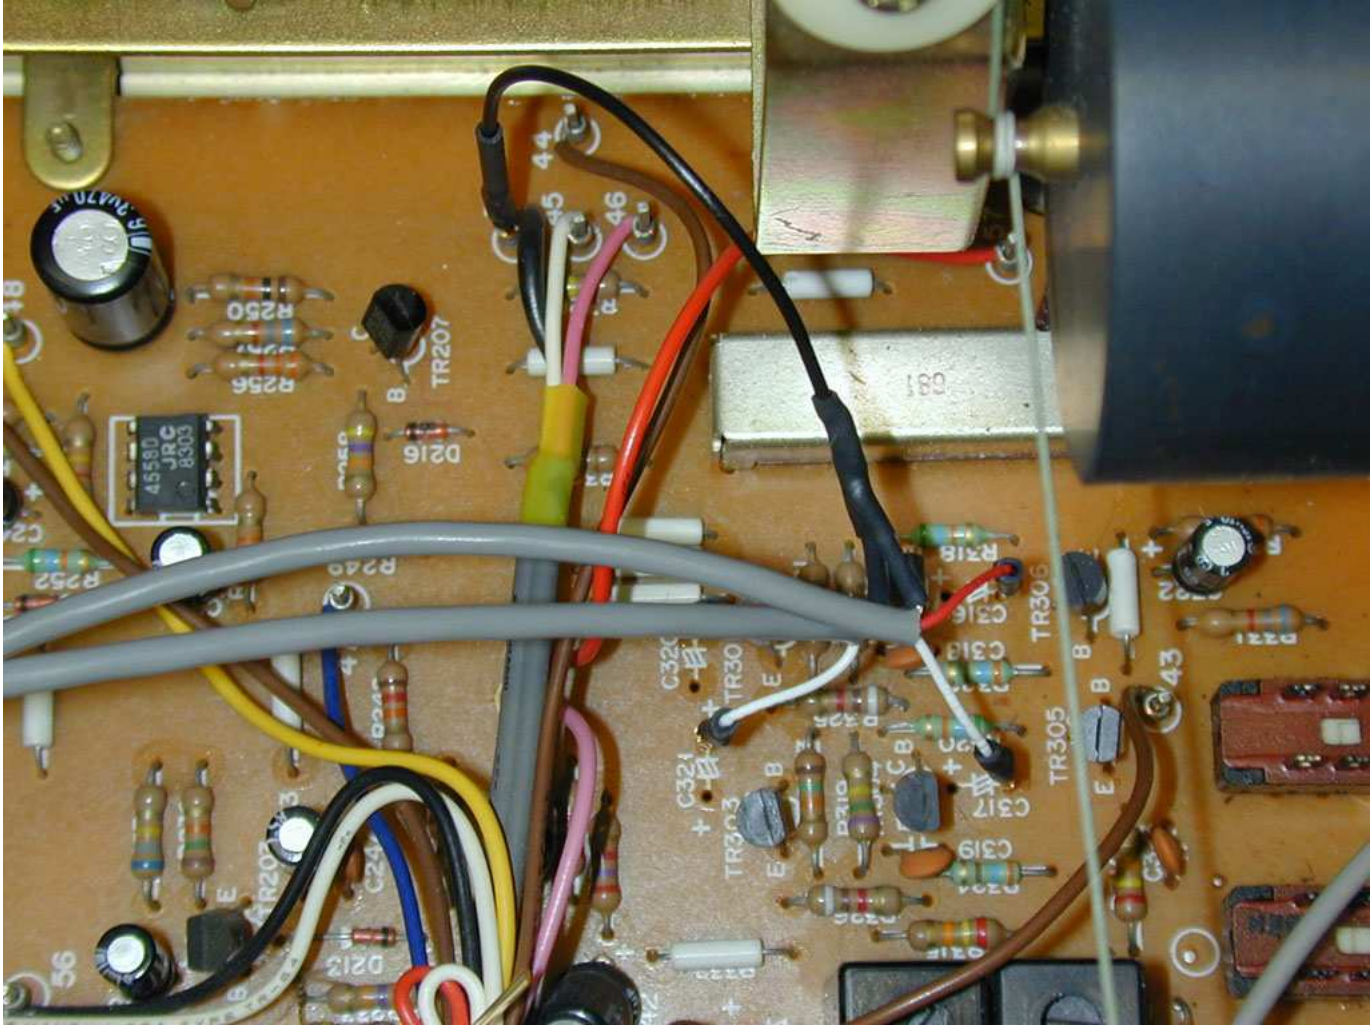
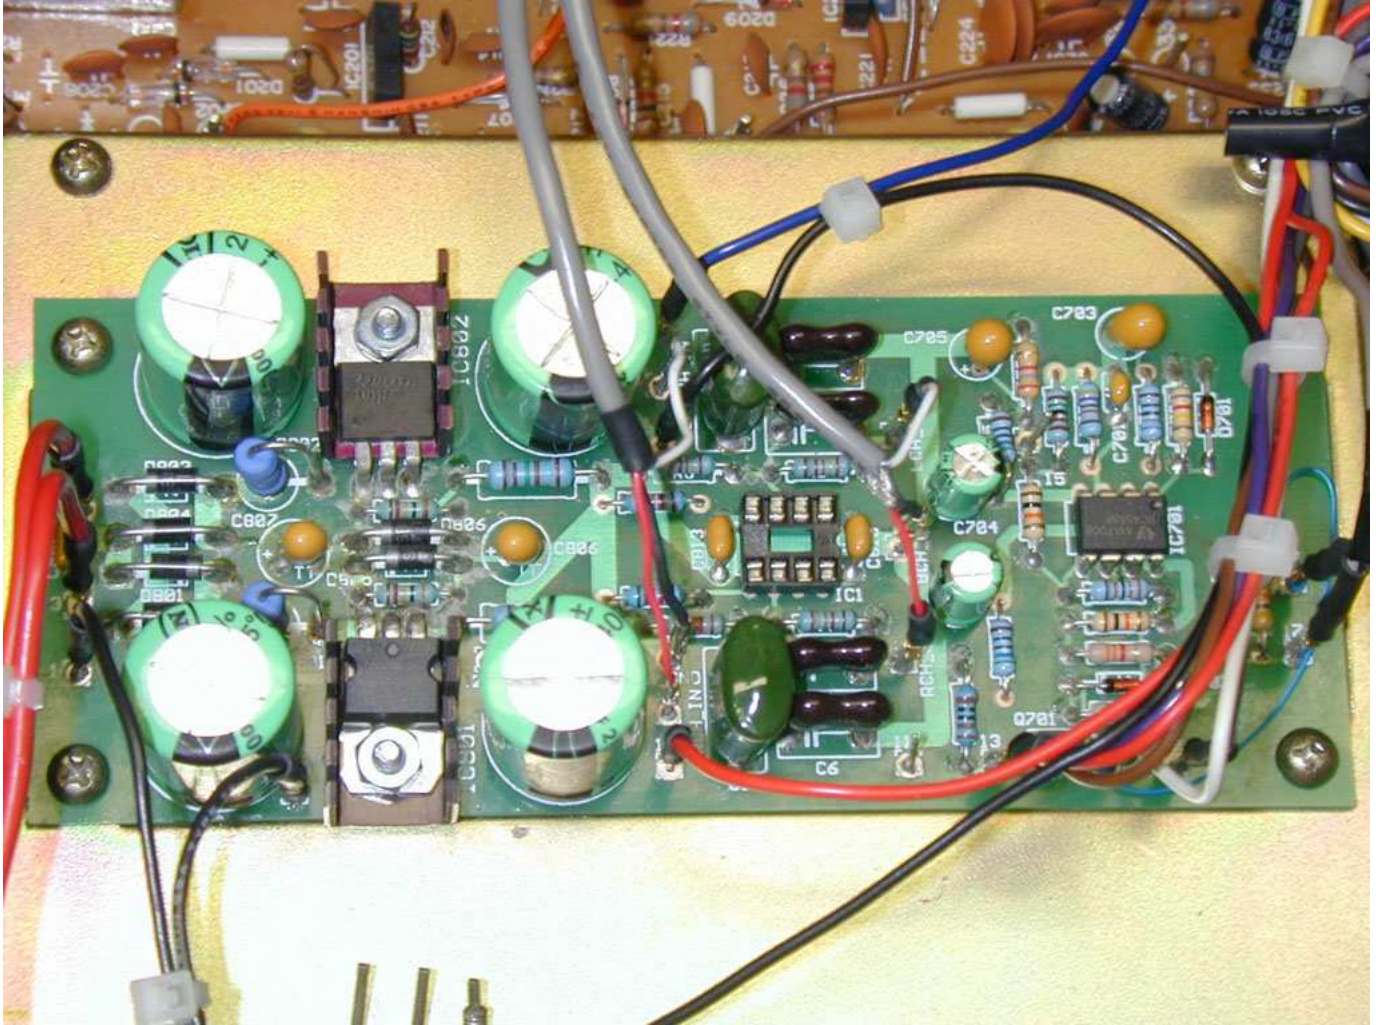

Figure 10, Harness terminations at the Tuner Main Board end
Figure 11, Harness terminations at the TM-1001 Power Supply and Amplifier Board end
7. Referring to Figures 10, 11 and 12, attach each wire by sliding the receptacle socket onto each corresponding 0.025 square pin.
8. The white wire of the first twisted pair cable goes to C317 minus (-) on the tuner main board (Fig 10), the white wire at the other end of this same cable goes to the TM-1001 Power Supply and Amplifier pin labeled LCH\_IN (Fig 11).
9. The red wire of the first twisted pair cable goes to C316 minus (-) on the tuner main board (Fig 10), the white wire at the other end of this same cable goes to the TM-1001 Power Supply and Amplifier pin labeled RCH\_IN (Fig 11).
10. The ground wire of the first twisted pair cable goes to the TM-1001 Power Supply and Amplifier pin labeled RCH\_GND (Fig 11).
11. The white wire of the second twisted pair cable goes to C321 minus (-) on the tuner main board (Fig 10), the white wire at the other end of this same cable goes to the TM-1001 Power Supply and Amplifier pin labeled LCH\_OUT (Fig 11).
12. The red wire of the second twisted pair cable goes to C320 minus (-) on the tuner main board (Fig 10), the white wire at the other end of this same cable goes to the TM-1001 Power Supply and Amplifier pin labeled RCH\_OUT (Fig 11).
13. The ground wire of the second twisted pair cable goes to the TM-1001 Power Supply and Amplifier pin labeled BCH\_GND (Fig 11).
14. The common ground wire from both twisted pair cable at the tuner main board end goes to the original equipment pin labeled 43 (Fig 10).